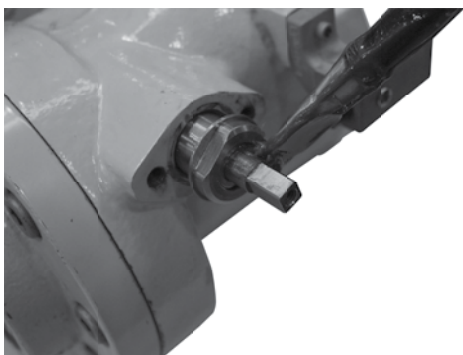

Figure 13. Lubricate parts (step 4)
4. Lubricate the shaft, gland, packing and follower bearing with a liberal amount of Magnalube®-G grease, Figure 13.